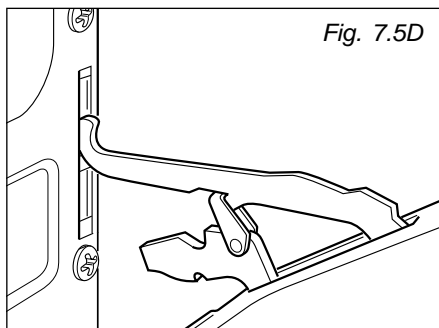

Fig. 7.5D
- Withdraw the upper hinge pins from their location (fig. 7.5D).